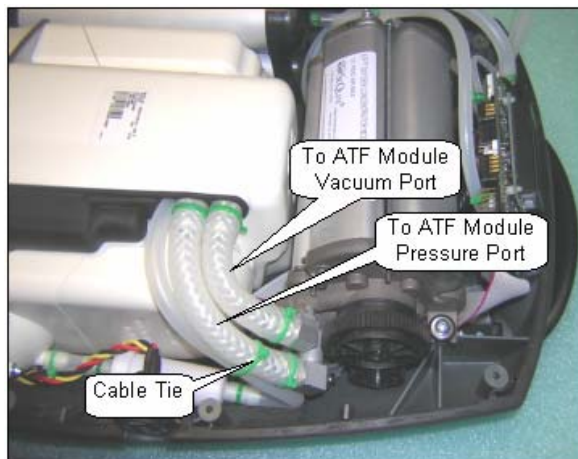

Figure 31: Removal of ATF Module Pressure and Vacuum Tubes.
15. Place the ATF in the Unit Case and remove the caps from the ATF Ports. Install the Braided Tubes into the ATF pressure and vacuum ports as shown on Figure 31. Do not use oil or grease if the tubing is difficult to install. Secure joints with Cable ties.
19. Use cable tie to secure the silicone tube to the braid tube to ensure that there is NO kinking on the bend as shown on Figure 31 above. Hand-tighten the cable tie. Inspect the tubing to ensure the tubing is not kinked.